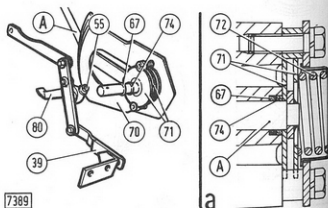

Fig. 218 - Spool Control Linkage
- Remove the spool control linkage. Take off quadrant (70, Fig. 218) with attached spring and clutch plate. Take off retaining spring (55) acting through the oil filler aperture. Withdraw the actuating lever with attached clutch plate and retrieve the internal linkage components.
- If the spool control linkage has been dismantled, reassemble referring to Fig. 218.